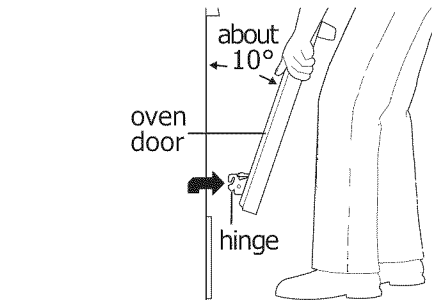
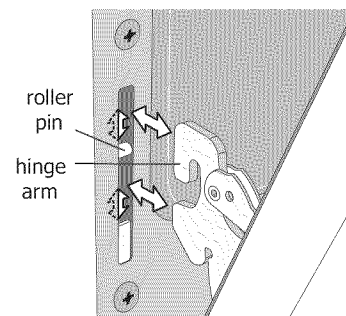

Figure 24: Holding door for removal
Figure 25: Replacement and location of hinge arm and roller pin
3. Firmly grasp both sides of oven door along the door sides. Do not use the oven door handle (Figure 24).
4. Close the door to approximately 10 degrees from the door frame (Figure 24).
5. Lift the oven door hinge arms over the roller pins located on each side of the oven frame (Figure 25).
1. Firmly grasp both sides of oven door along the door sides. Do not use the oven door handle (Figure 24).
2. Holding the oven door at the same angle as the removal position, seat the hook of the hinge arm over the roller pins located on each side of the oven door frame (Figure 24 and Figure 25). The hook of the hinge arms must be fully seated onto the roller pins.